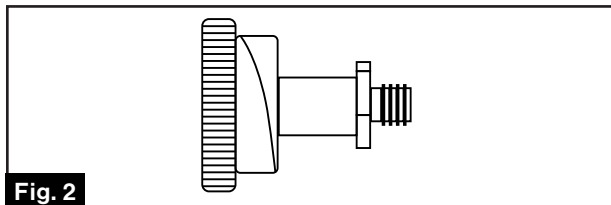

Fig. 2
- Unscrew the regulator cap with the wrench. (Fig. 2)